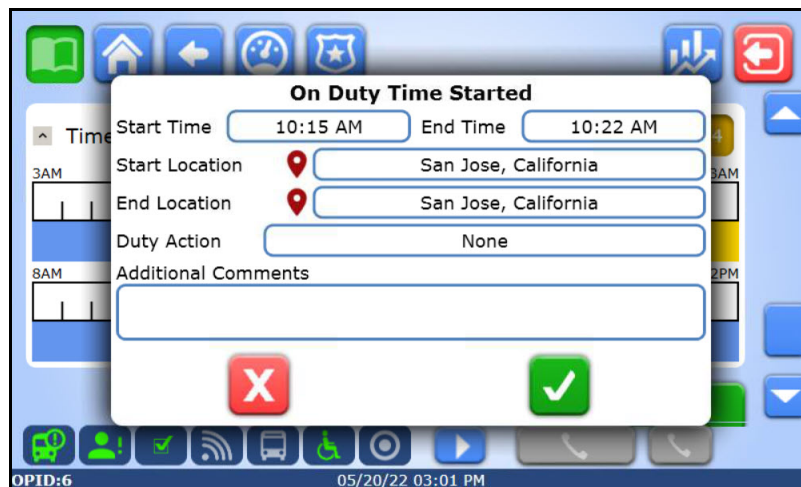

Figure 3.15 — Edit Duty Status Popup
3. On the zoomed-in version of the timesheet, tap the section that you want to edit. A popup window appears (Figure 3.15). It is similar to the **New Duty Status** popup described in Section 2.2 on page 4, but it contains an added field for the **End Time**.